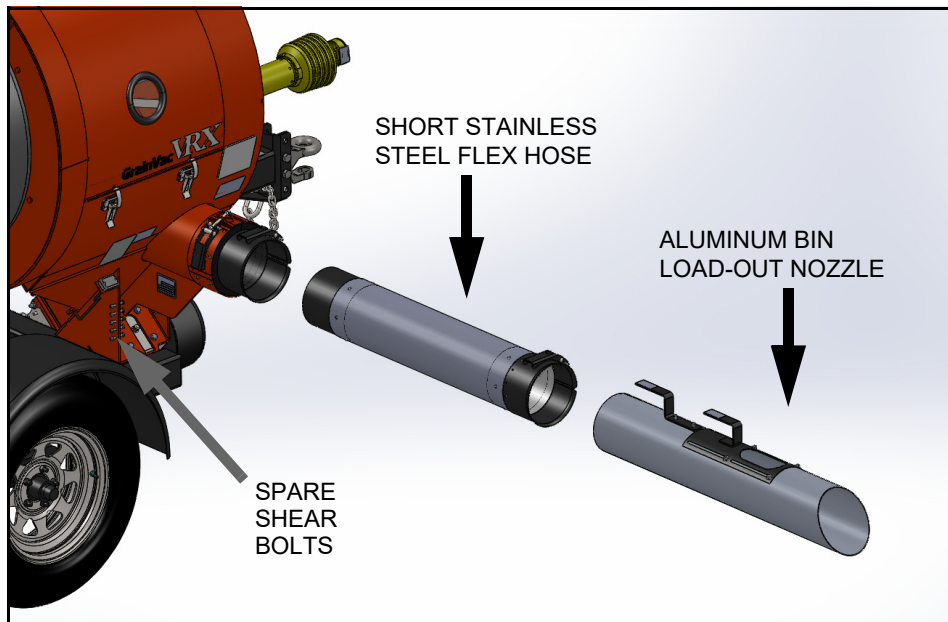

Figure 4.8 Recommended Hose Configuration for Bin Load-Out
7. Using the combination of hoses shown in Figure 4.8, insert the end of the intake hose into the grain and proceed with vacuuming the grain to draw down the grain in the bin.